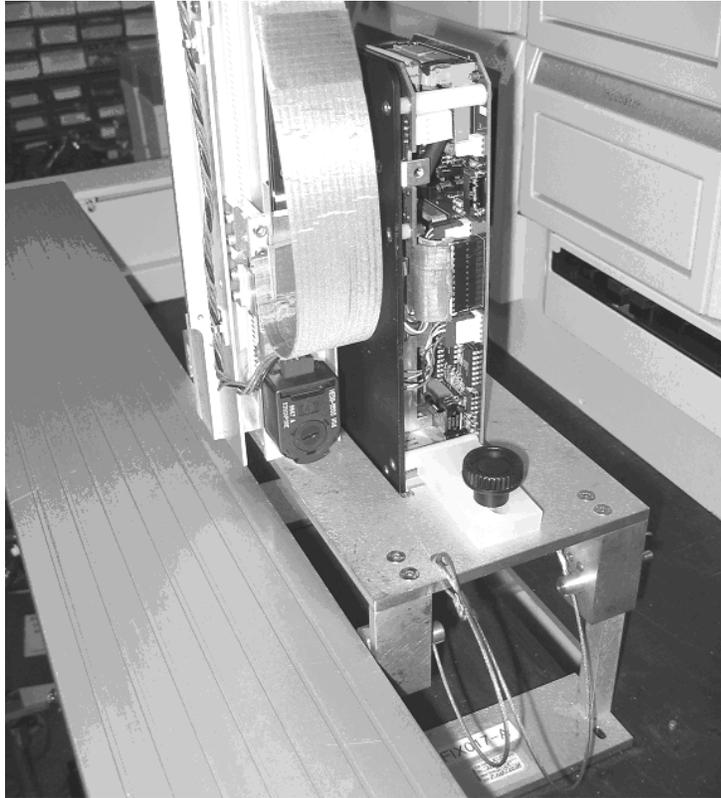

Figure 7-4 Mounting the Pipette on the PMFIX017-A Jig
- 4 When you replace the pipette assembly, it will be necessary to align the pipette to the base plate using the Pipette alignment jig (jig number PMFIX017-A). The base plate should be mounted on the jig as shown in Figure 7-4. The pipette alignment jig should be positioned on the baseplate in the reagent rack location.